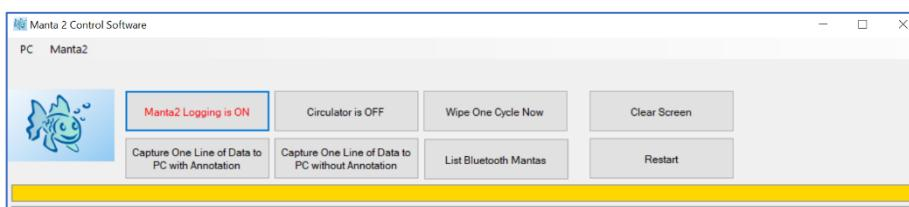

Figure 26. Manta 2 Control Software home page showing that logging has been "activated."
5. Since logging has already been "enabled" on your Manta, logging must be temporarily disabled before you can download the Log file. To disable logging, click the "Manta2 Logging is ON" hot button. The button should change to "Manta2 Logging is OFF" (Figure . 26). **NOTE: IT IS CRITICAL WHEN YOU ARE DONE DOWNLOADING DATA THAT YOU RE-ENABLE LOGGING (see #8, below).**